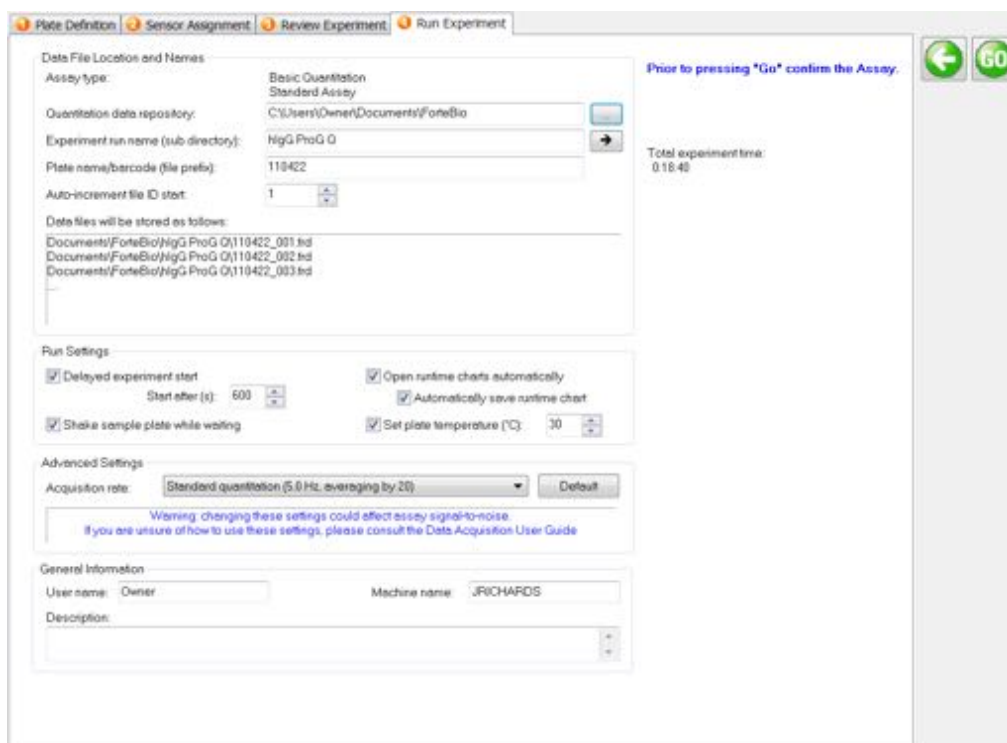

Figure 5-53: Run Experiment Window
1. Click the **Run Experiment** tab, or click the arrow  to access the Run Experiment window (see Figure 5-53).